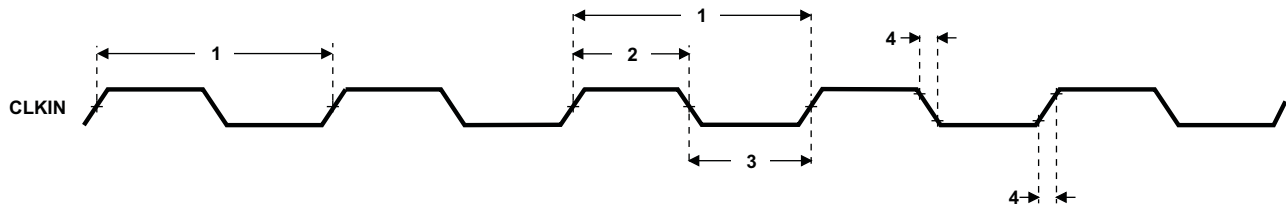

Figure 6-9. CLKIN Timing
Table 6-4. Timing Requirements for CLKIN^{(1) (2)} (see Figure 6-9)